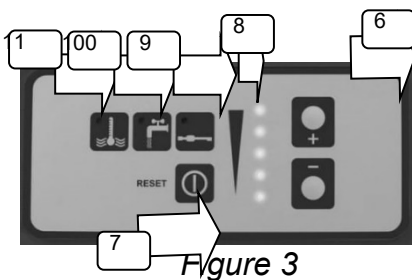

Figure 3
- I. Turn the main switch (4) to ON position. The machine checks the system and prepares to work, then wait a few seconds.
- II. Use the buttons (6) to select the desired power level. These levels are shown by the power level indicators (8, see *Figure 3*).